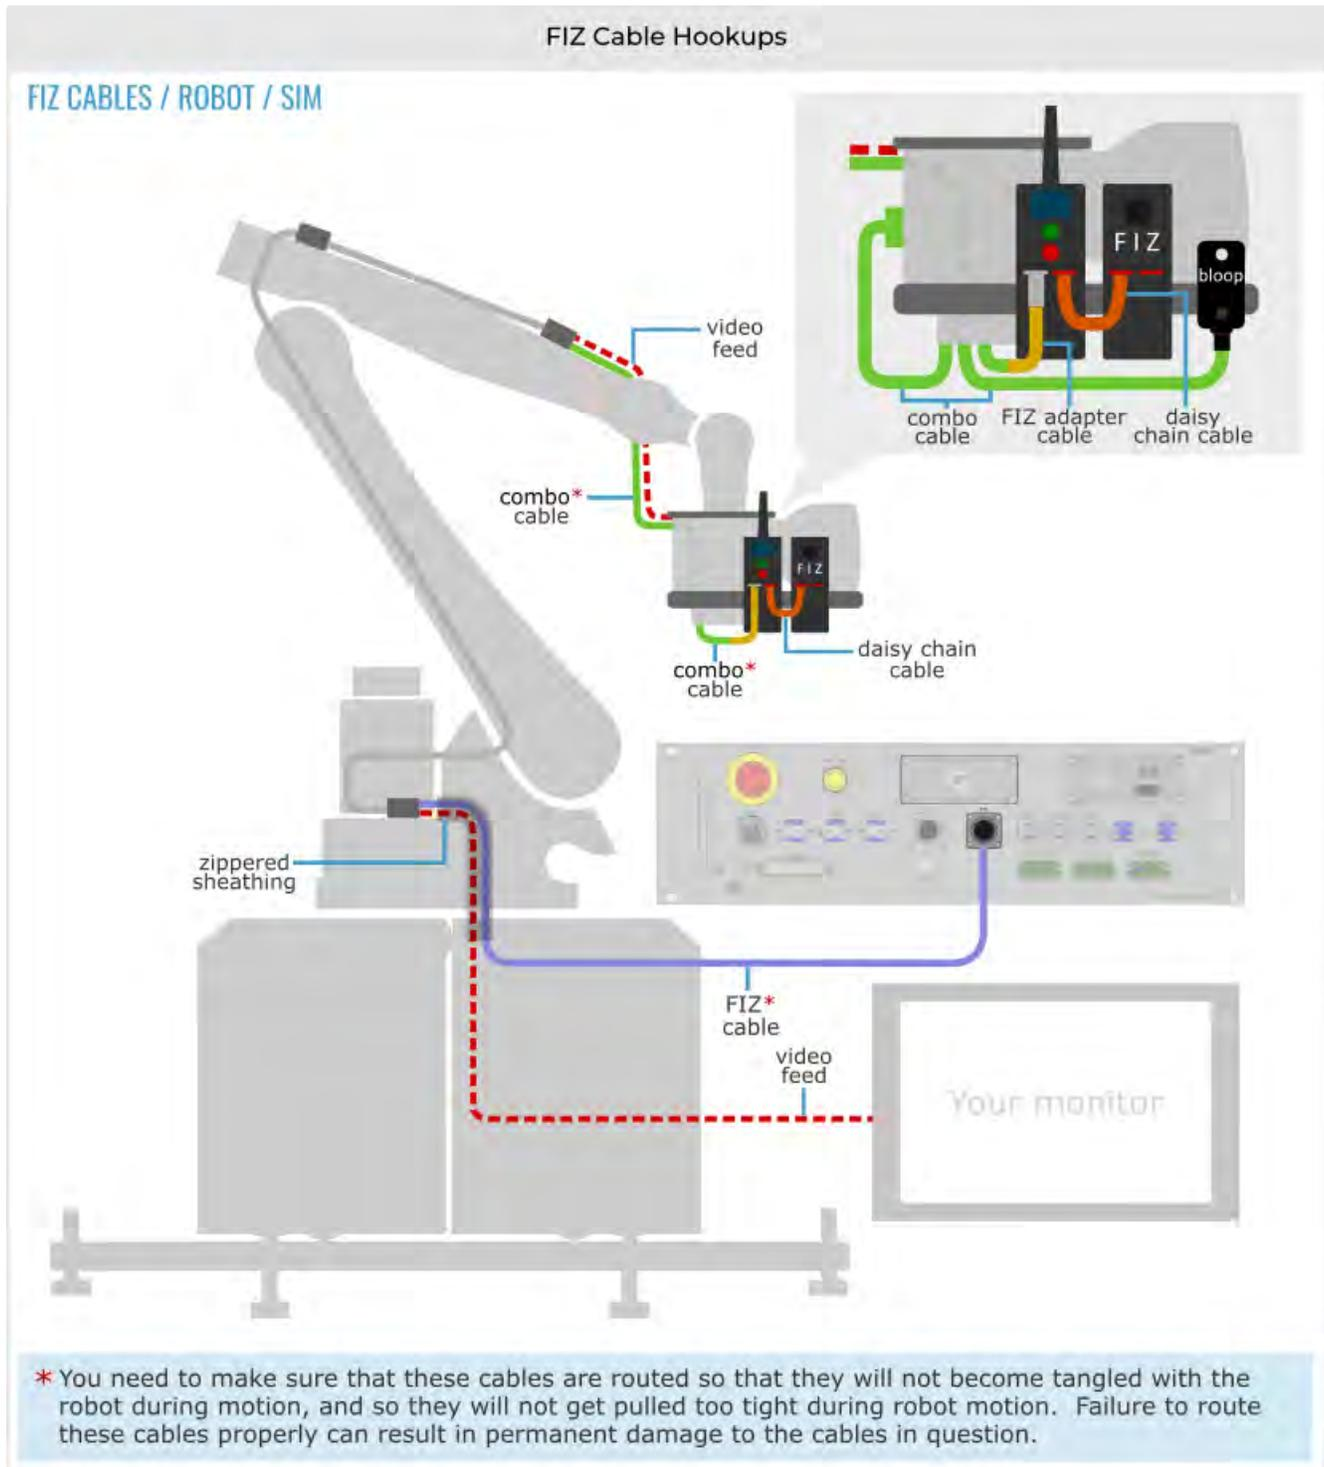

Figure 1: FIZ Cable Hookups
4. Mount your cPRO and cforce PLUS FIZ motors onto the FIZ mounting rod in the same order as is shown in Figure 1. If you purchased a 3rd FIZ motor, that will also need to be mounted.